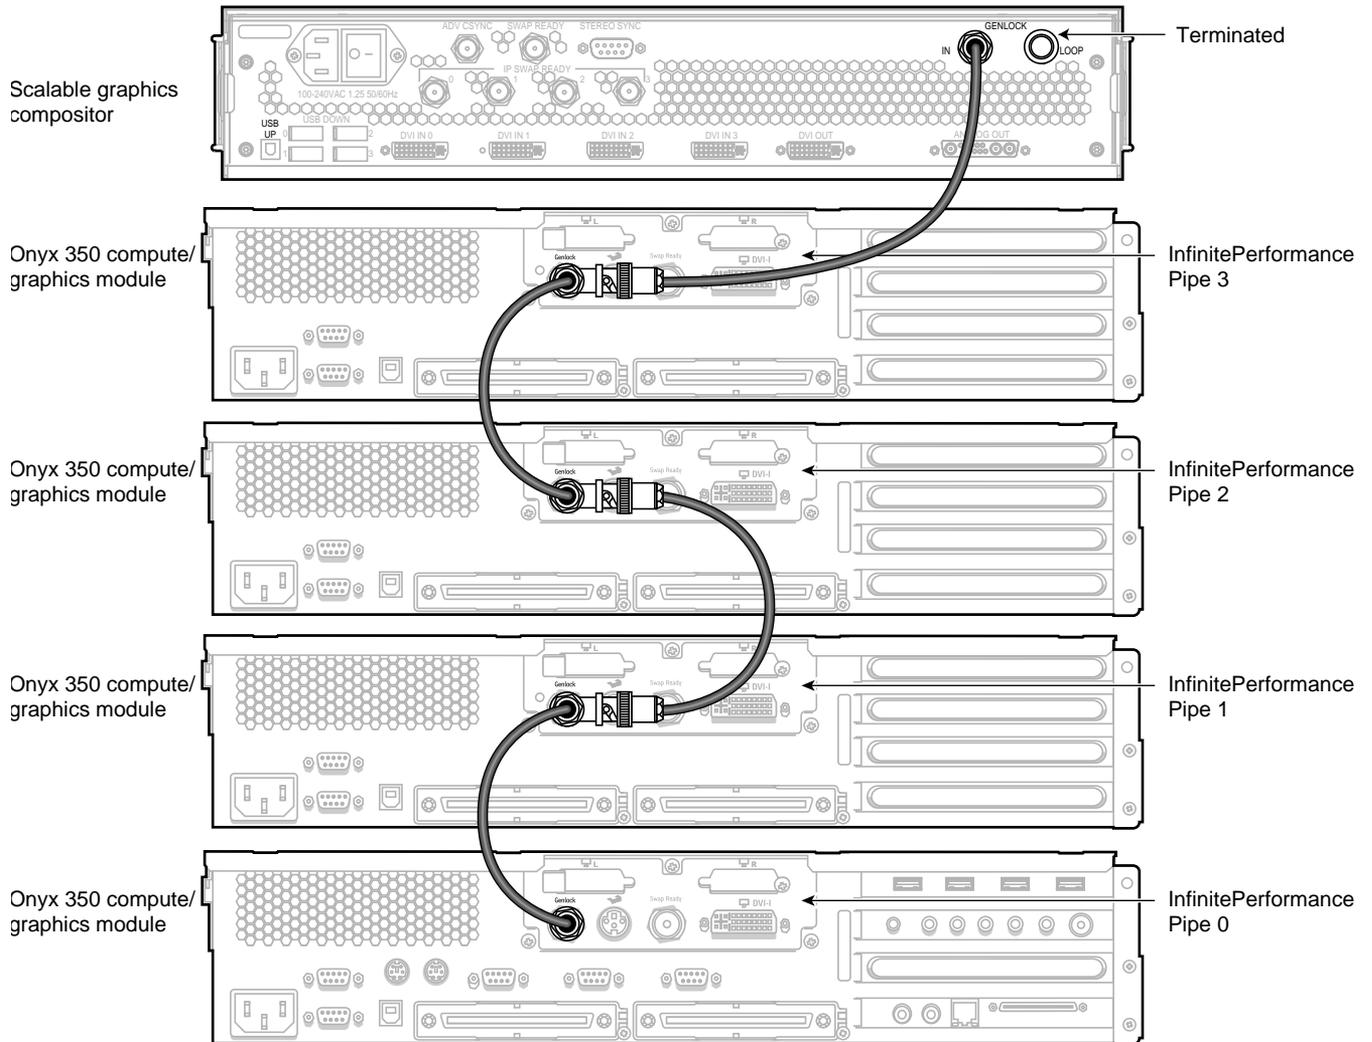

Figure 2-7 Connecting the Genlock Connectors
6. Using the 75-ohm BNC cables and the BNC L connectors, daisy-chain the InfinitePerformance genlock connectors to each other, and then connect the last genlock connector to the genlock-in connector on the compositor in the following order (as shown in Figure 2-7): pipe 0 to pipe 1, pipe 1 to pipe 2, pipe 2 to pipe 3, and pipe 3 to the genlock-in connector on the compositor.
7. Connect the 75-ohm BNC terminator to the genlock-loop connector shown in Figure 2-7.